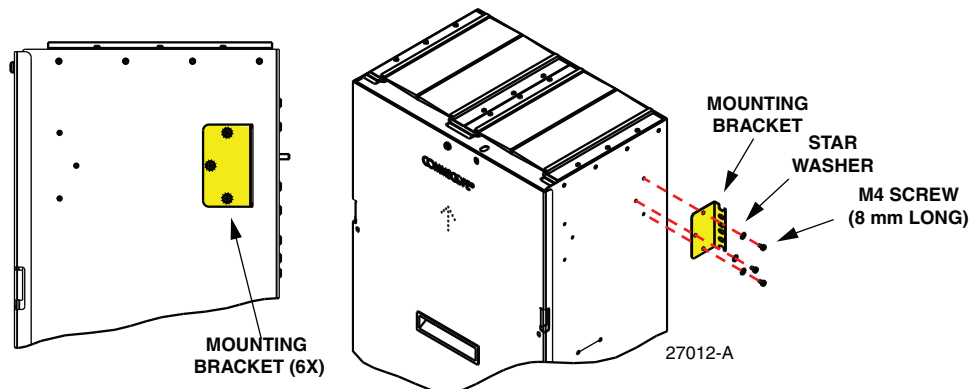

Figure 6. Two Post Installation Mounting Bracket Location
1. Select and install the appropriate mounting brackets (Figure 6).